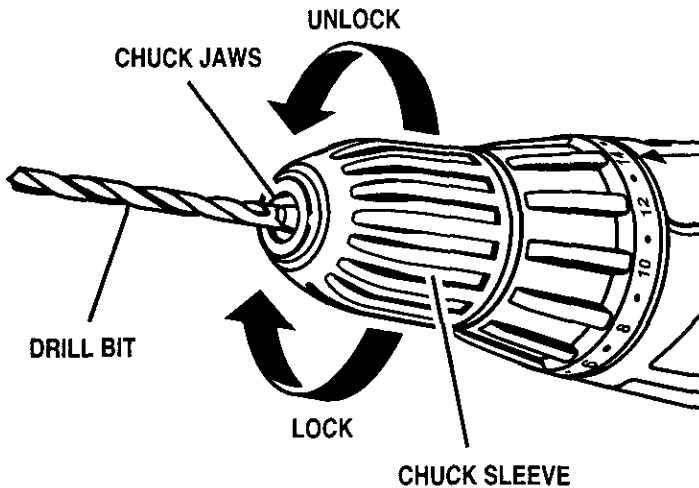

Fig. 3
See Figure 3.
- Insert drill bit straight into chuck the full length of the jaws as shown in Figure 3.